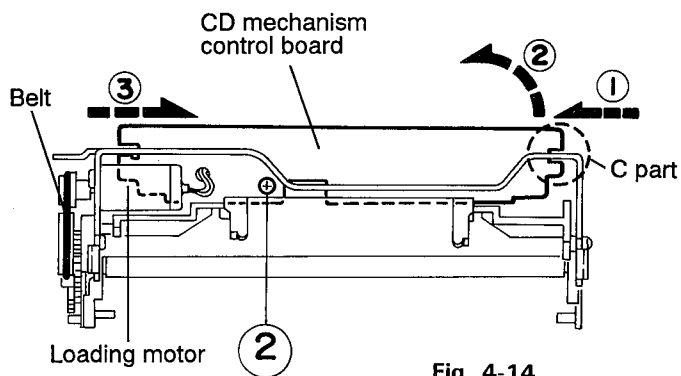

Fig. 4-14
8. Remove the one screw ② retaining the CD mechanism control P. C. board (See Fig. 4-14).
9. After disengaging the engagement between the notch section ㉞ and frame, remove the CD mechanism control P. C. board successively from ① through to ③ in the arrow direction as shown in Fig. 4-14.
1. Remove the belt from the loading motor (See Figs. 4-14 and 4-15).